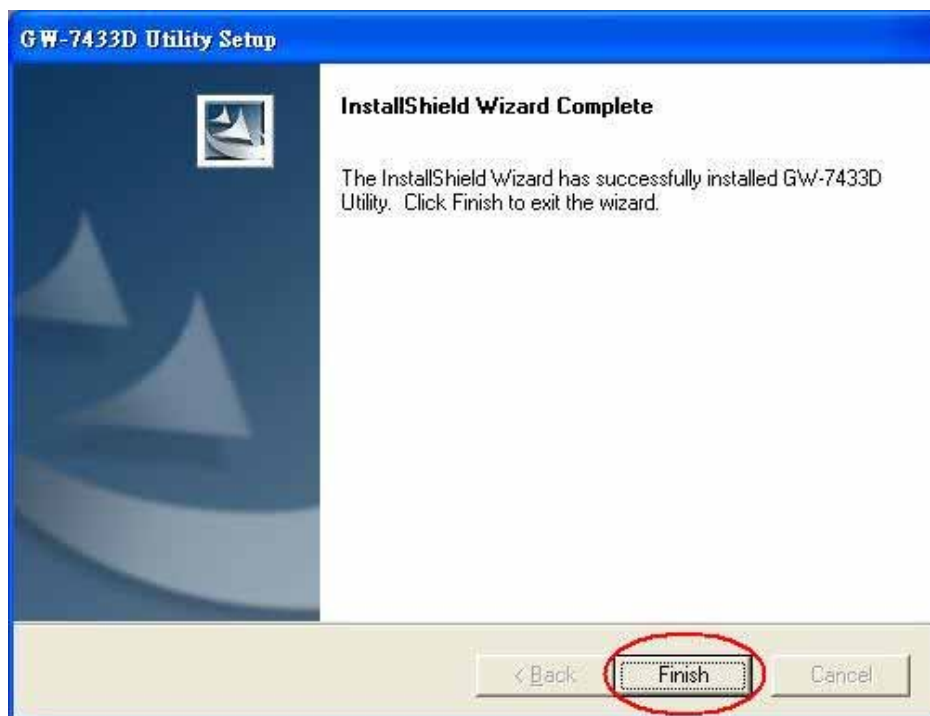

Figure 5-5: “Successful Completion of the Installation” dialog
Step 6: Click “Install” button and start to install the GW-7433D Utility to the system. After finishing the process, a “Complete” window will pop up to prompt users that the successful completion of the installation. And click “Finish” button to exit. See figure 5-5.